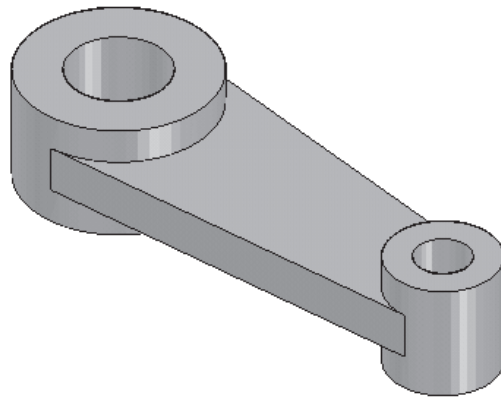

Figure 5-70 Model after creating the feature
- Create the second feature also on the top plane, refer to Figure 5-70.
4. Exit the sketching environment and then extrude the sketch symmetrically through a distance of 10 units. The model, after creating this feature, is shown in Figure 5-70.